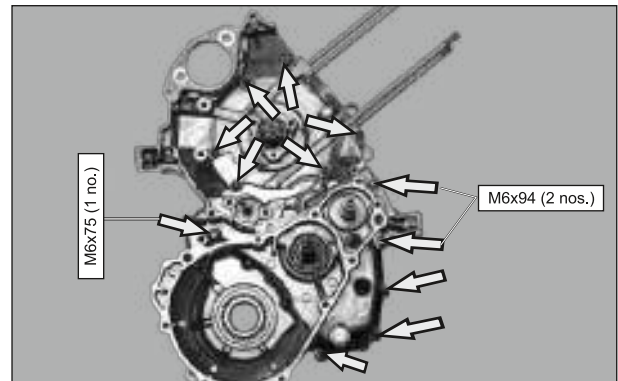

Fig. 3.129
- Fasten the crankcases with 9 nos. of hexagonal flange bolt (M6x50) on crank case L. (Fig. 3.129)
- Also, with 2 nos. Hexagonal flange bolt (M6x95), and 1 no. Hexagonal flange bolt (M6x75) on crank case L. (Fig. 3.129)